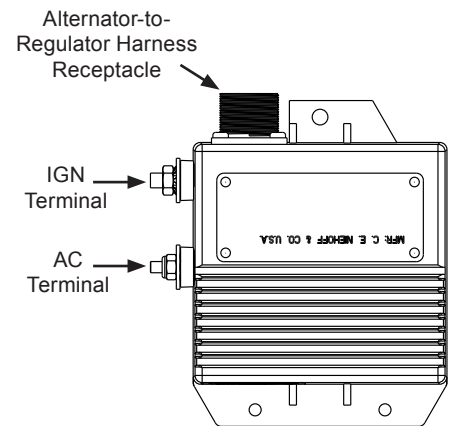

Figure 4: Typical Regulator External Features
- IGN terminal/pin (required): Vehicle must supply battery voltage to IGN terminal to energize charging system. See Figure 4.
- AC output (optional): Phase terminal/pin taps AC voltage from alternator phase for use with relay or tachometer. Output is typically half of the output voltage at a frequency ratio of 10:1 of alternator speed. See Figure 4.